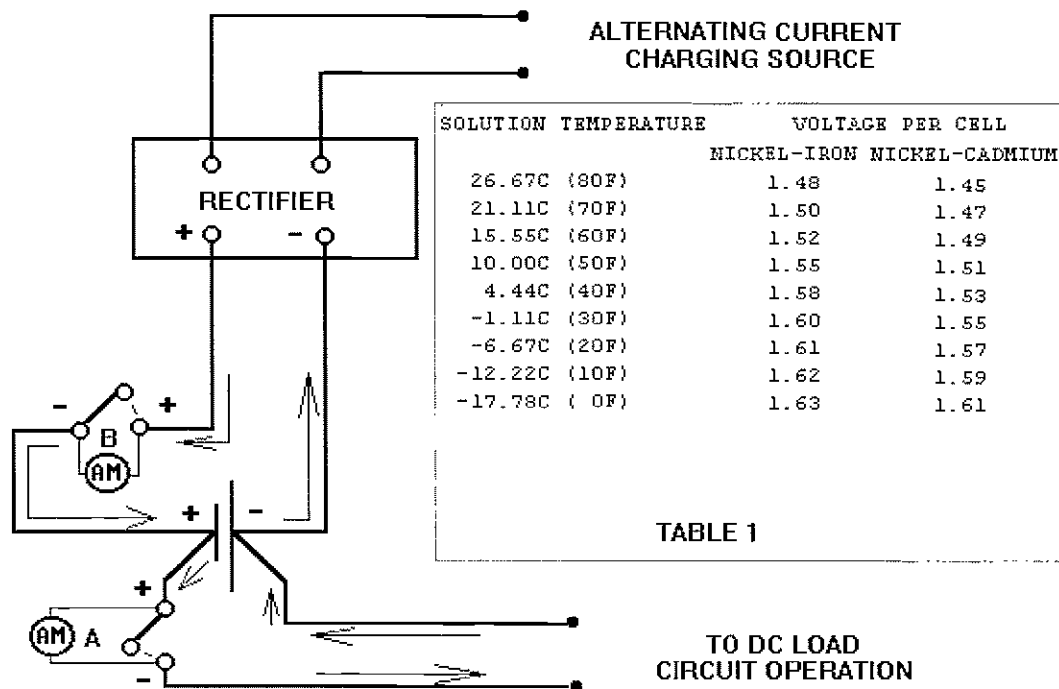

Figure 1
3. Determine the maximum load by using ammeter "A" (see figure 1, this page).
5. Place ammeter "B" (fig. 1, this page) in series with rectifier and adjust rectifier to read current calculated in Step 4. above.